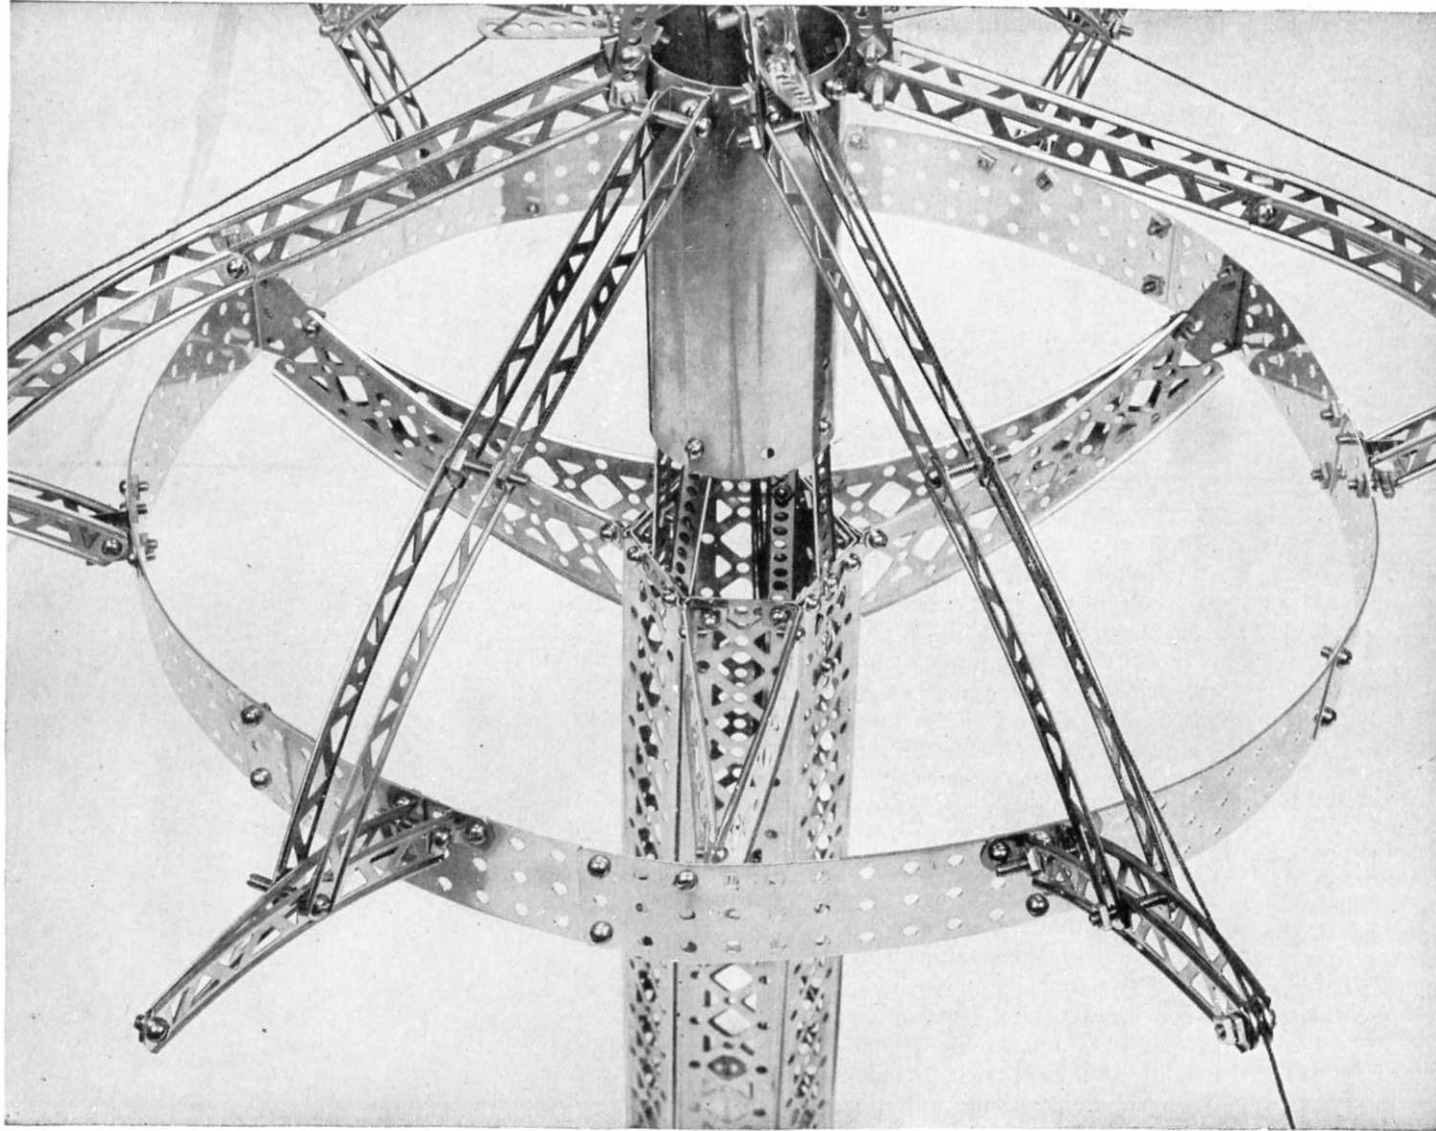

FIGURE 4
This third figure shows the top of the second square girder being fastened to a six-sided member constructed of 6 (EX) big channel girders 12", and two (NS) 41 hole strip — formed. The two (NS) strips are attached inside each end of this six-sided member. See Fig 4 for an inside view of this member.
The top ring is built in circular form with 10 (MF) 1" x 5" base plates. This ring is supported from the top of the tower in three places with (EZ) big channel curved girders as shown in Figure 4. A (T) boiler is mounted on top of the tower with 4 (H) 11 hole strips. The top of the boiler is supported in six places with an assembly of 2 (B) 5" girders fastened to 2 (E) 5" curved girders which in turn are fastened to 2 (E) 5" curved girders that form the over-hanging struts. On Figure 4, you will see the over-hanging struts are fastened to the ring with (P20) 5 hole strip—formed. In the ends of four of these struts, (AQ) sheave pulleys are fastened so they are free to turn. The string for the parachute will pass over this pulley.